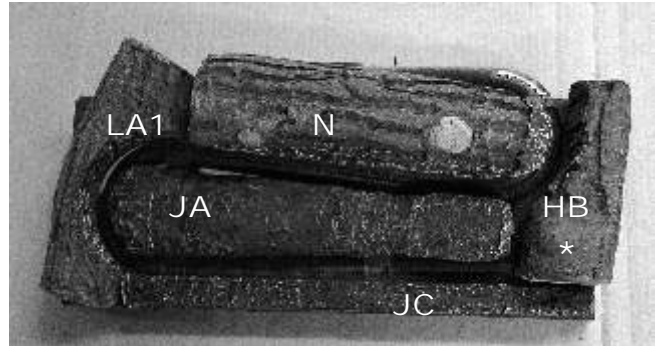

Figure 10
1. Position the 'JA' log onto the center of the burner cover aligning the notches in the bottom of the log to the brackets in the burner cover. Figure 10.
2. Place the 'N', 'LA1' and 'HB' logs into position on the burner cover as shown in Figure 10. To secure in place once positioned, press the logs down slightly onto the pins in the burner cover.
3. Place the 'JC' log into position in front of the burner as shown in Figure 10.
4. Align the hole in the bottom of the 'AP' log to the alignment knob* protruding from the 'HB' log. Refer to Figures 10 & 11.